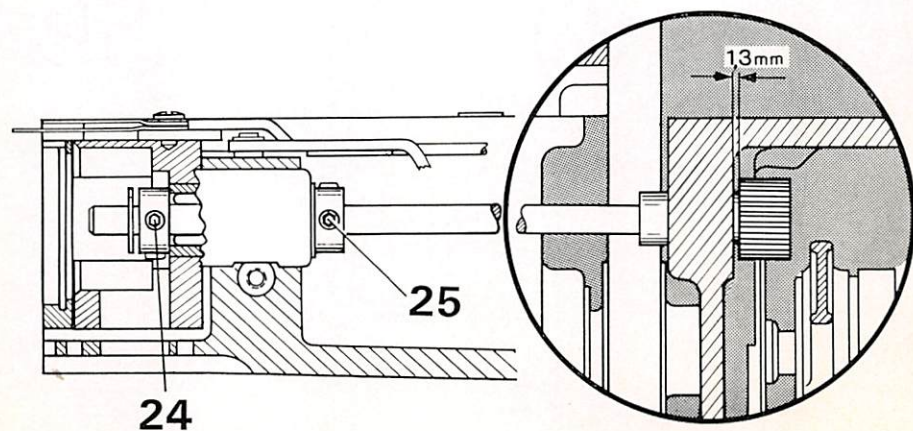

Fig. 14
**14. Setting the shuttle driver shaft longitudinally (Fig. 14)**
- 14.8. Loosen screw **25** in the rear collar tightened previously, and press this collar up against the shuttle driver shaft bearing, while lightly pushing against the front end of the shaft. In this way, a clearance of 1.3 mm (0.05") is provided between the wall of the arm standard and the spur gear on the shuttle driver shaft (see encircled view of Fig. 14).